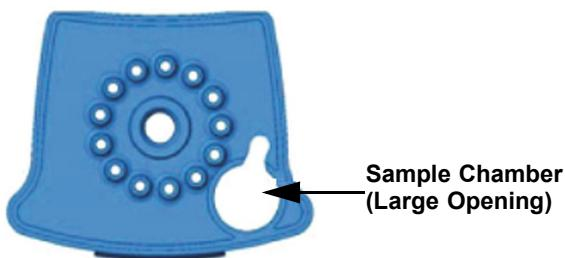

Figure 1. Xpert GBS LB Assay Cartridge (Top View)
- C. Transfer the swab into the Xpert GBS LB cartridge sample chamber. See Figure 1.